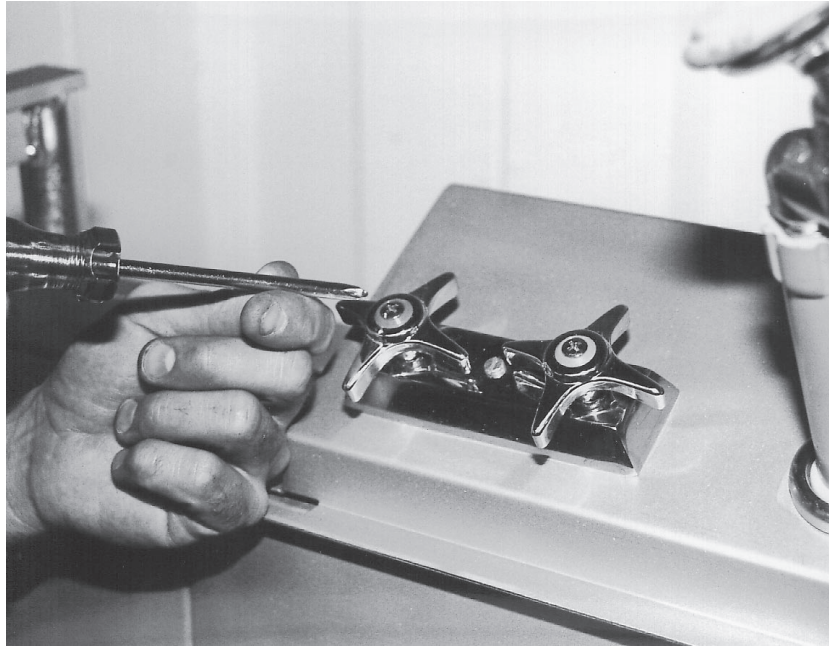

Fig. 53
4. With a philips head screwdriver, remove the hot and cold water faucet handle holding screws. (Fig. 53)